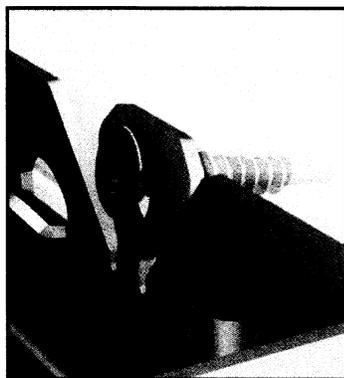
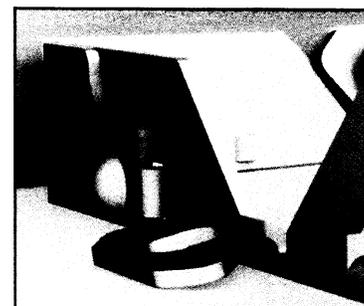

Figure 1
Figure 2
4. With remaining two sides, secure with anchor (by others) through hole in Easy Install Tabs (Figure 1), or fold over to secure to sheetrock (Figure 2).